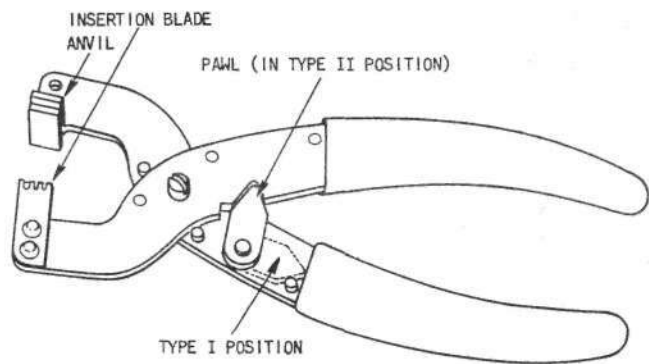

Fig. 27—KS-21872 Hand Connecting Tool
**3.08 Rewiring**—If only a few wires have been connected to the wrong terminals, it may be possible to change them without a complete rewiring. Carefully remove each improperly connected wire with long-nose pliers (Fig. 26). Lift the wire upward with a twisting motion of the pliers so that the terminal jaws are not damaged. ***Do not pull the wire sideways from the terminal; this might damage the jaws so badly that the connector would have to be discarded.*** Cut off the used tip of each wire and reterminate with the hand connecting tool (Fig. 27) as follows: